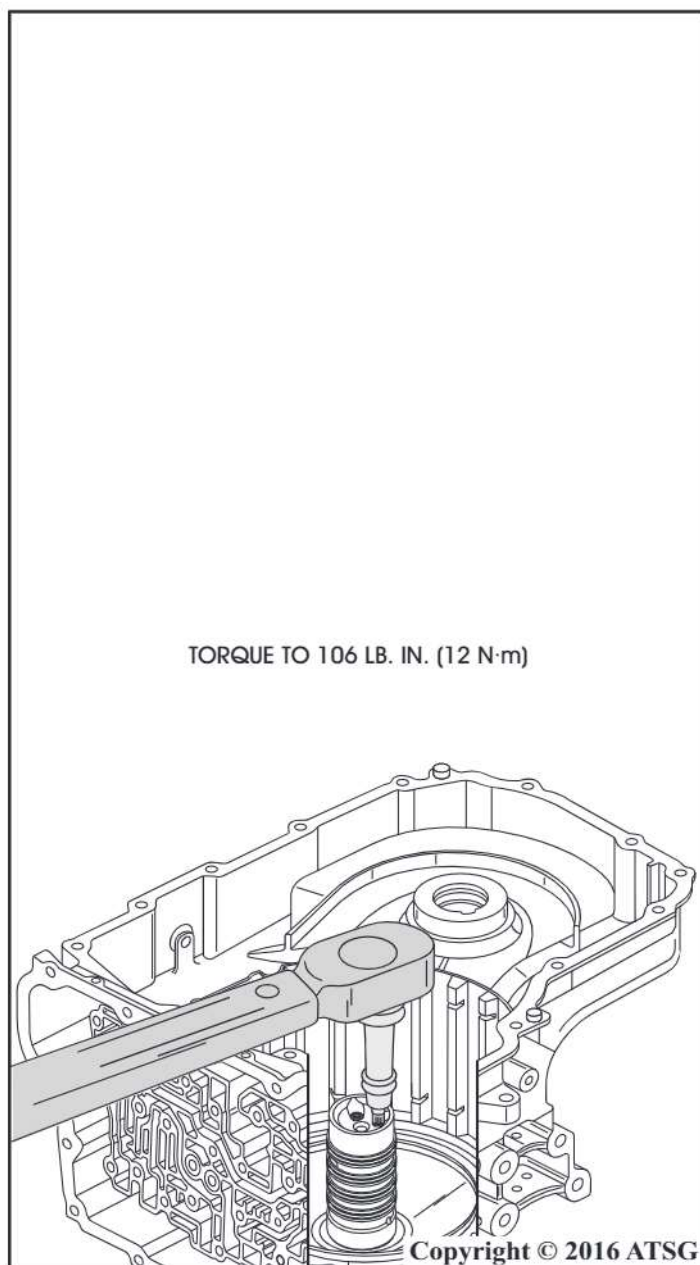

Figure 146
19. Torque the 4-5-6/3-5-R housing support bolts to 106 lb. in. (12 N·m) as shown in Figure 146.